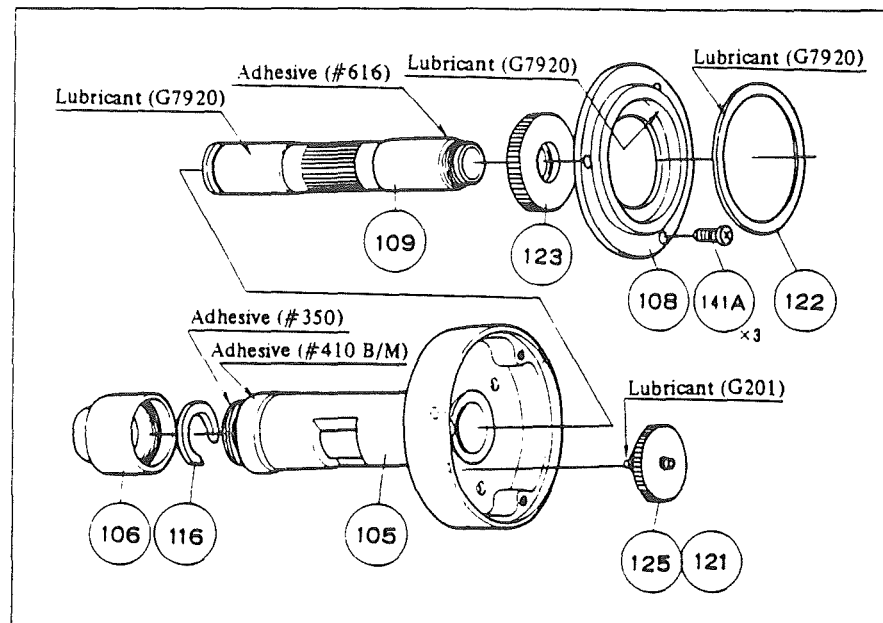

Fig. 26
- 5) Draw out coarse focus shaft (110). (Gears (126) and (127) will come in sight.)
- 6) Remove coarse focus bearing (108) as well as gears (121) and (125). (Fig. 26).
(109) and (123) are cemented with each other by No. 616 (Fig. 26).